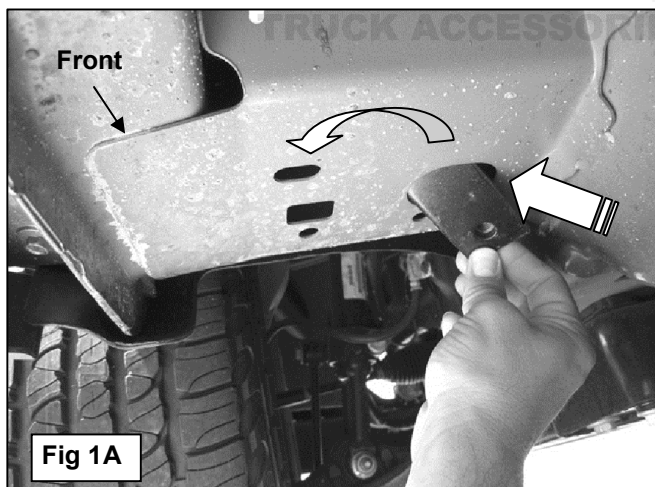

Fig 1A
2. Start installation toward the driver side front-side of the vehicle. Locate the driver side-front mounting location, **(Figure 1A)**. Select (1) Welded Double Nut Plate, **(Figure 1B)**. Insert the Nut Plate into the large round hole in the floor panel. Line up the (2) threaded nuts in the Nut Plate with the large round hole and the oval hole in the floor panel. Select the driver side Front Bracket. Hang the Bracket from the Double Nut Plate with (2) 10mm x 30mm Hex Bolts, (2) 10mm Lock Washers and (2) 10mm Flat Washers inserted through the Bracket and into the Double Nut Plate, **(Figure 2)**. Do not tighten hardware at this time.